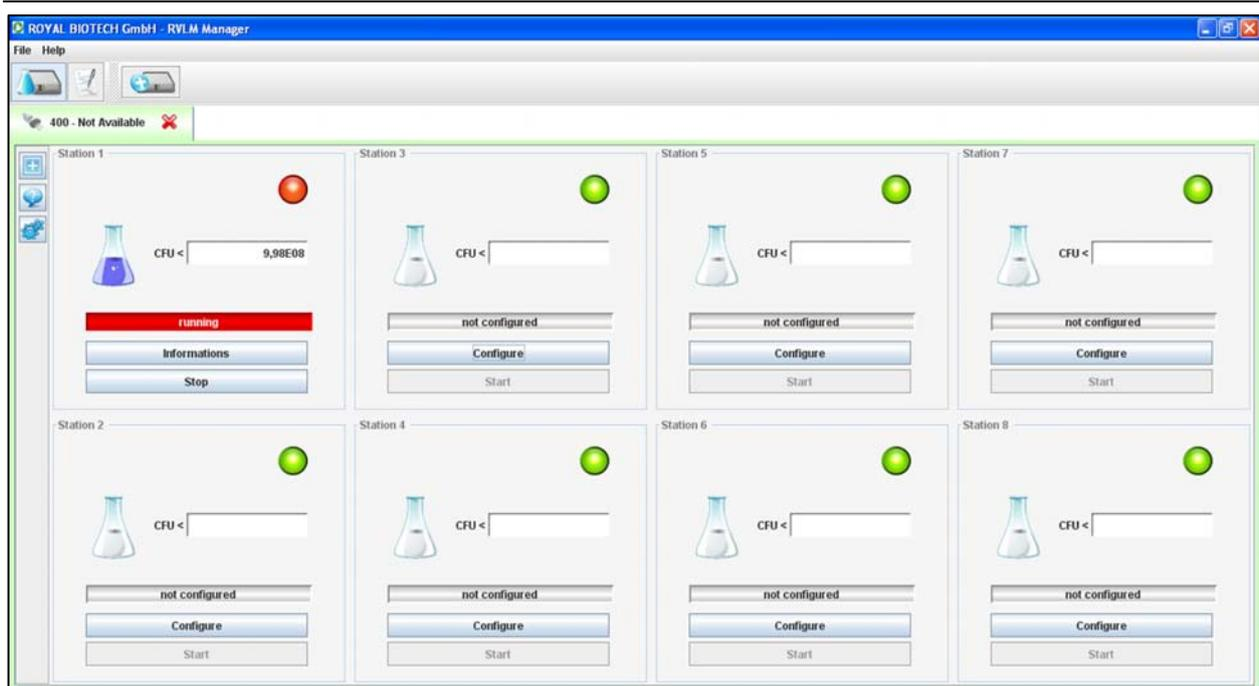

Fig. 14. RVLM – User interface, test start
- You can now begin the test by clicking once on the "Start" button of the configured station. The light will turn red and the message "Running" will appear on a red box (fig.14);